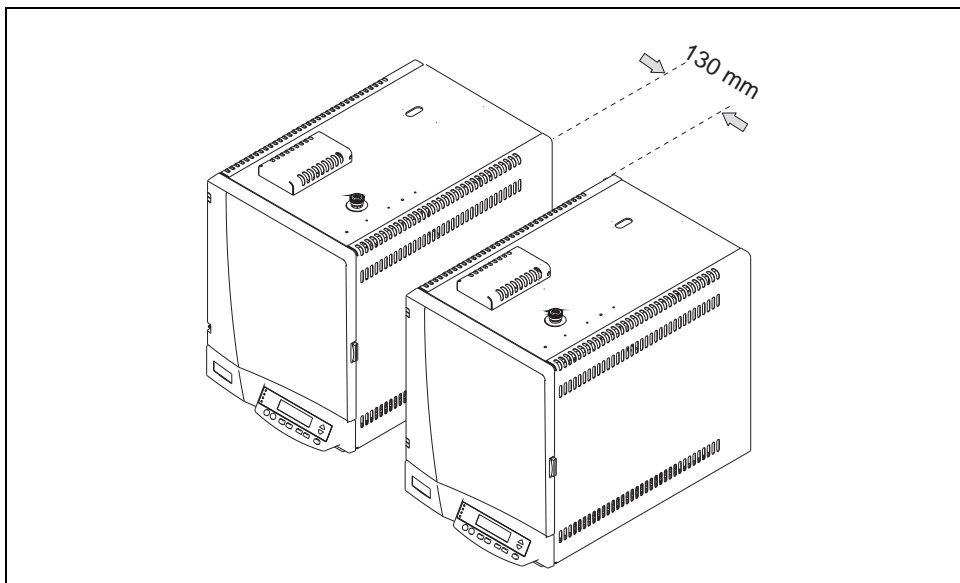

Figure 3-9. FOCUS GCs Placing
1. Place the two FOCUS GCs side by side leaving a distance of about 130 mm between the two GC units as shown in Figure 3-9.